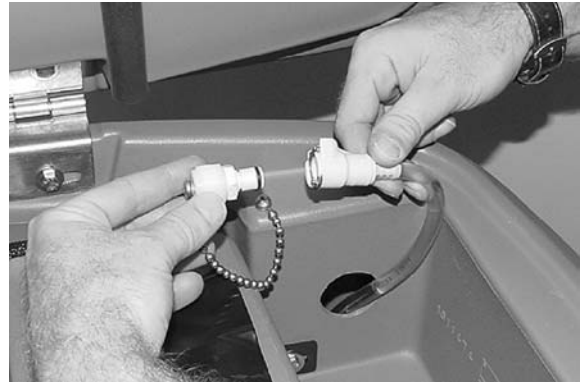

FIG. 46
10. FaST Model: Connect the FaST-PAK supply hose to the storage plug when not in use (Figure 46). Remove any dried concentrate from the hose connector by soaking it in warm water.